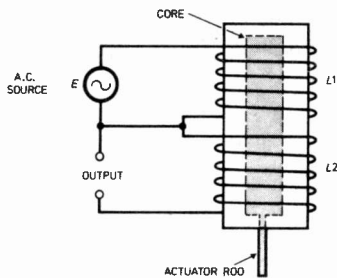
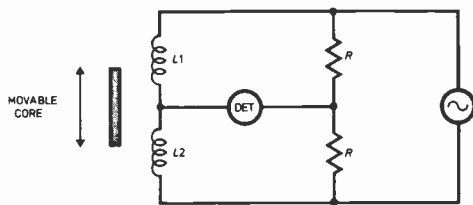
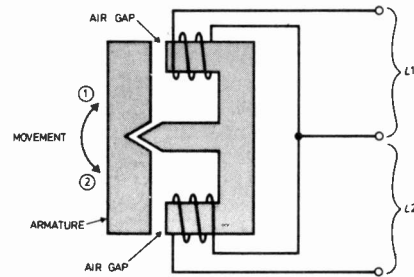

Fig. 3.8. Mutual inductance version of the passive inductive transducer
Fig. 3.9. A two-coil variable inductance transducer
Fig. 3.11. A passive variable reluctance transducer in which armature movement will be caused by small angular or linear displacement
In Fig. 3.8 the mutual inductance coupling between the two coils L_1 and L_2 depends on the core position and hence the output voltage across L_2 can be calibrated, in terms of position, providing the excitation E is held constant. An alternative arrangement, Fig. 3.9, uses a coil system similar to Fig. 3.8 but with L_1 and L_2 connected as two ratio arms of an a.c. bridge.
Directional information can be determined from all of these arrangements although the method shown in Fig. 3.8 would require a phase-sensitive detector system since a simple a.c. detector would respond only to the degree of unbalance between L_1 and L_2 and would not indicate the sense of core displacement from the central position.
This class of devices relies on the change of inductance by virtue of a change of reluctance. Unlike the self generating system the core is not normally magnetised by the inclusion of a permanent magnet but relies on the external excitation. A double coil system for use in an a.c. bridge would be similar to Fig. 3.9 except that the changes in L_1 and L_2 would be the result of changes in reluctance due to, say, a changing air gap as shown in Fig. 3.11. Movement in the direction (1) increases L_1 and decreases L_2 .